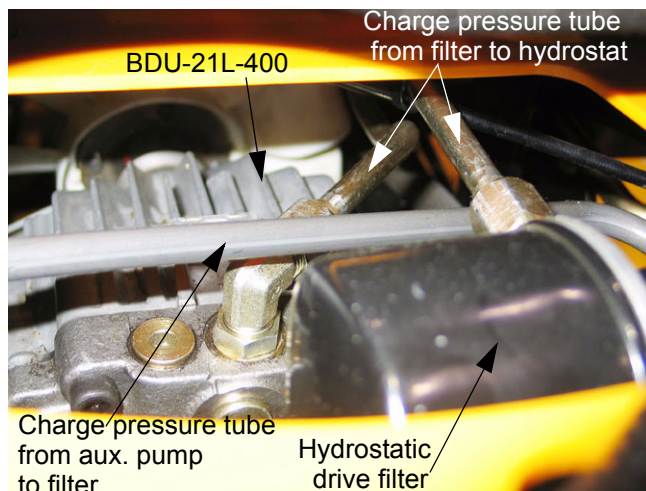

Figure 1.4
- 1.4. The hydrostatic drive filter (P/N: BS-492932S) is located on the return manifold, atop the transmission. It is accessible through the opening beneath the seat. See Figure 1.4.